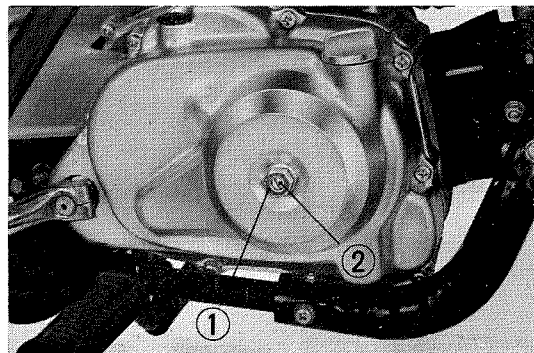

Fig. 6 Clutch adjustment
3. From this point, back off the adjuster in the clockwise direction 1/4 to 1/3 turn, and then tighten the lock nut. (Fig. 6)